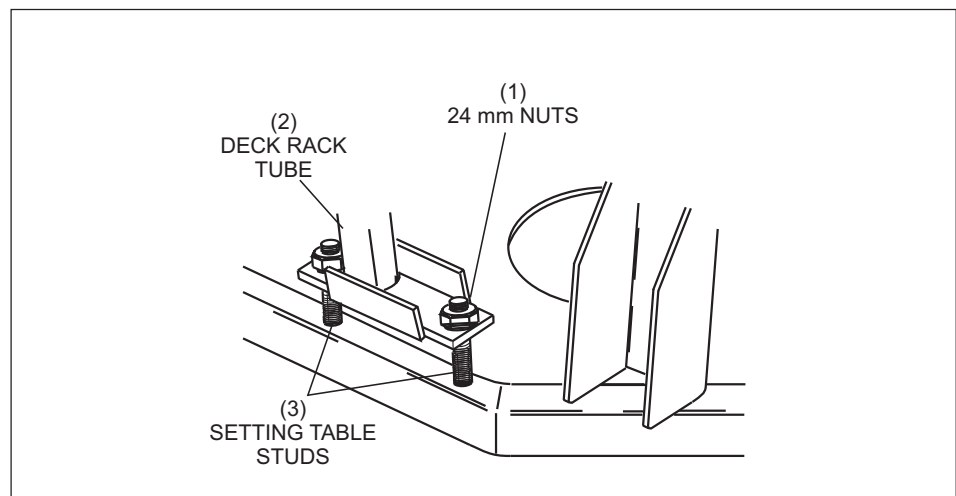

*Figure 8-2. Placing Spacers.*
2. Place two 914 mm (3') long 1 x 4 spacers on the pin deck positioned so the deck will be supported front and back. Refer to *Figure 8-2*.